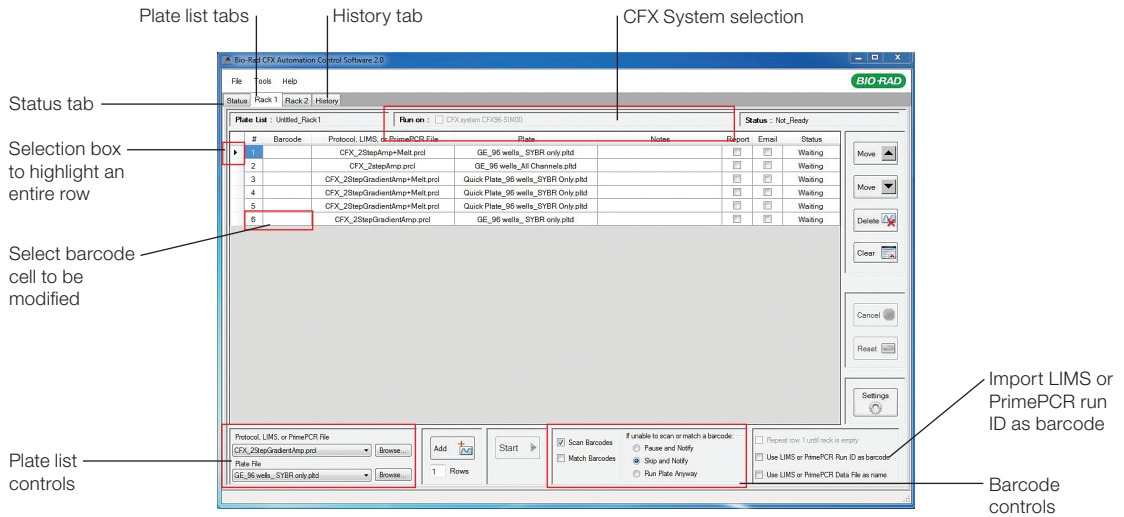

Fig. 19. Plate list tab.
The plate list is the table that contains the cycling instructions for all plates loaded into a specific source rack (Figure 19). The plate list tabs are named according to the rack in which the source plates are loaded (Rack 1, Rack 2, etc). View each of the plate lists by selecting either of the plate list tabs on the main tool bar. All controls for creating, editing, saving, and running plate lists are found on the plate list window.
Use the plate list controls (Figure 19) to add plates to a plate list:
If two CFX Systems are connected, designate the CFX System(s) on which the plates should be run. Select **Front CFX System** and/or **Rear CFX System** on the desired plate list (Figure 19). If both 96-well and 384-well CFX Systems are configured, each CFX System must be controlled by an individual plate list and the source rack must contain only 96-well or 384-well plates.
Select or deselect the **Scan Barcodes** option in the barcode controls section of the plate list tab (Figure 19).
- Plates are placed in the input rack defined in the plate list window (Figure 19)
- If two CFX Systems are configured with the plate handler, the desired CFX System(s) is/are selected (Figure 19)
Select the row to be modified by clicking on the selection box for that row (Figure 19). Multiple rows may be selected by using the shift and control keys. After selecting the desired rows, you may:
Each plate list tab contains a barcode controls section (Figure 19) that permits you to modify how the system applies barcode information. Table 10 provides an overview of system response for the various options selected.